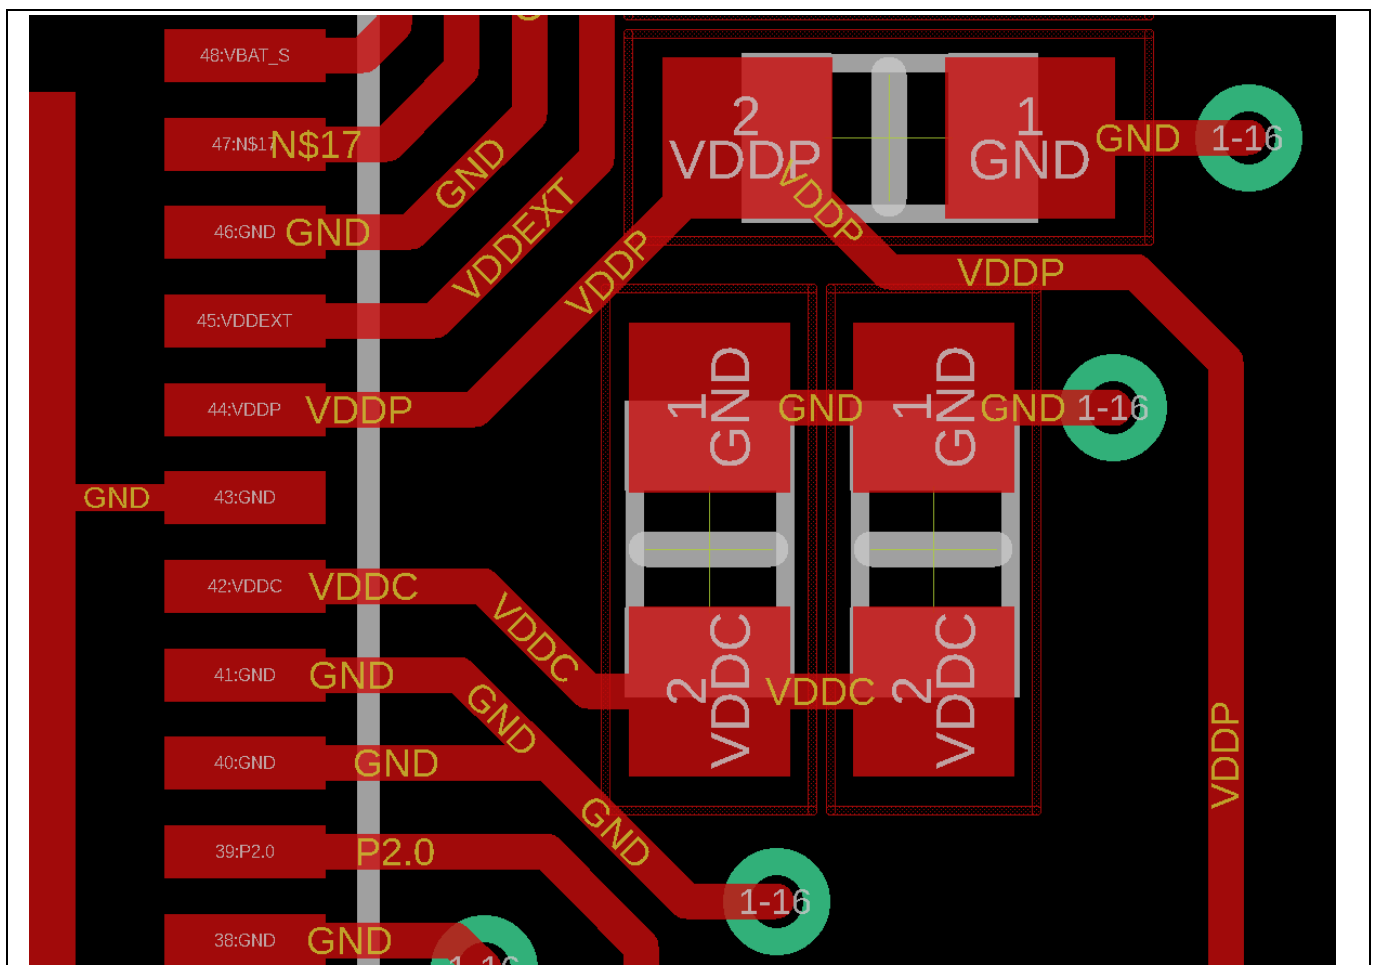

Figure 2 Layout proposal: VDDC and VDDP capacitors
**Figure 2** shows a PCB layout proposal for VDDC and VDDP capacitors. It is recommended to place the VDDC capacitors as close as possible to pin 42 and connect them to the global ground with a via. The VDDP capacitor shall also be placed close to pin 44 and connected to the global ground with a separate via.